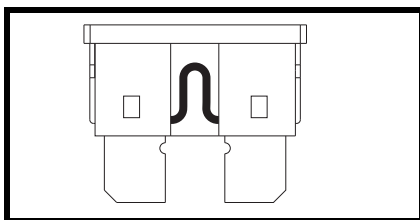

Figure 18. Working Fuse
2. Examine the fuse to be sure it is blown. See figures 18 and 18A.